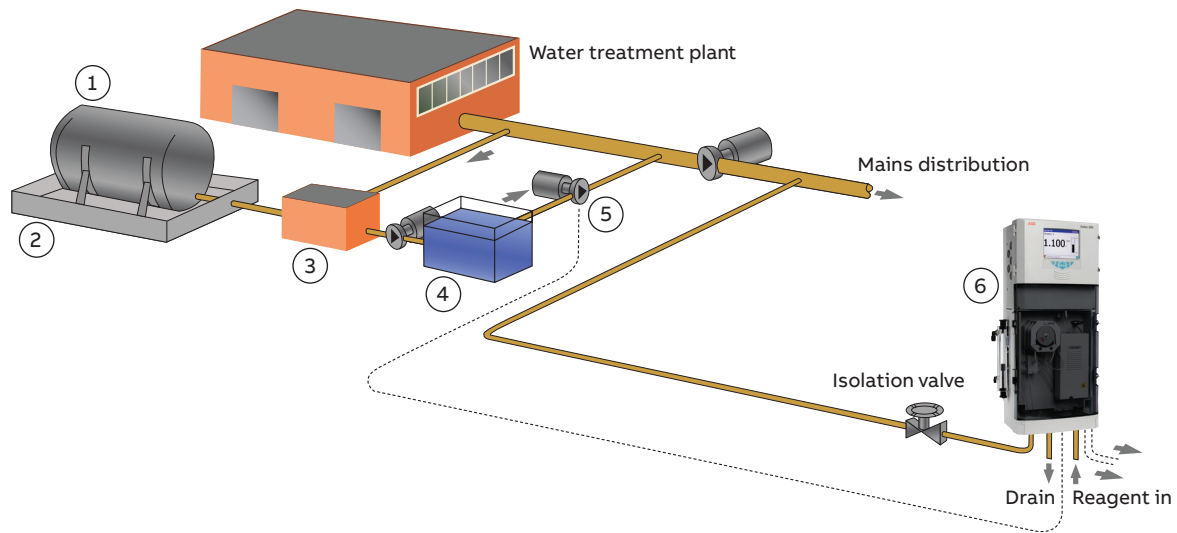

Figure 1 A typical water fluoridation treatment plant arrangement.
Figure 1 shows a typical water fluoridation treatment plant arrangement. In this example, hexafluorosilicic acid is held in a bulk storage tank (1) within a bunded area (2). Prior to use, the acid is passed through an automatic dilution plant (3) to reduce its concentration and help simplify control of dosing. From here, the diluted acid is passed to a separate tank (4), which holds around a day's supply of acid. As a